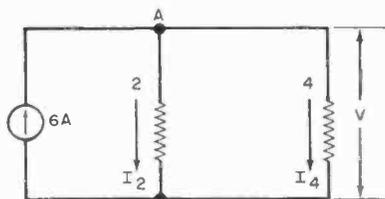

Fig. 9
**E. Parallel Circuits.** A parallel circuit is a network where the voltage across each element is the same (Fig. 9).
**Ex. 10.** For the parallel circuit in Fig. 9, determine (a) the voltage across each resistor and (b) the current in each. *Sol.* (a) Applying Kirchhoff's current law at node A, we have:  $-6 + V/2 + V/4 = 0$  or  $6 = V(2 + 1)/4 = 3V/4$ ; and  $V = 8$  V. (b)  $I_2 = 8/2 = 4$  A;  $I_4 = 8/4 = 2$  A.